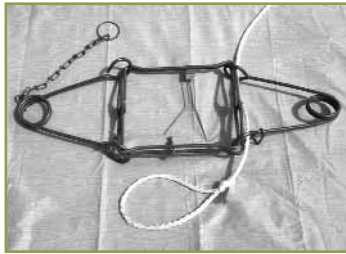

Figure BV6a. Step 1
- 1) Thread the rope through the eyes of one of the springs (Figure BV6a).